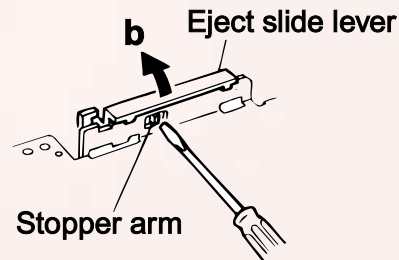

Fig.2
■ **Eject slide lever** (Fig.2)
1. Place the cassette mechanism back side frontward and disengage the stopper arm b of the Eject slide lever by pressing it inwards through the opening of the chassis with a small screwdriver as shown in Fig.2.